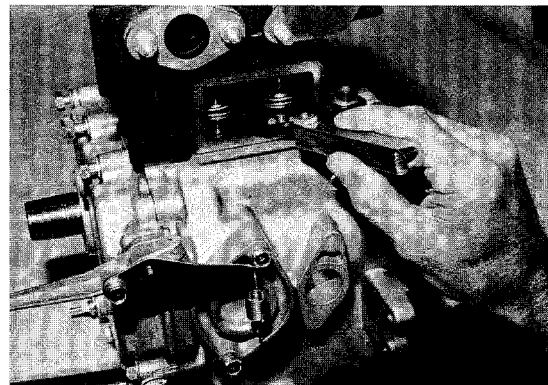

Figure 6-24
5. Insert feeler gauge between each tappet (72) and valve stem (51 and 55) (Figure 6-24).